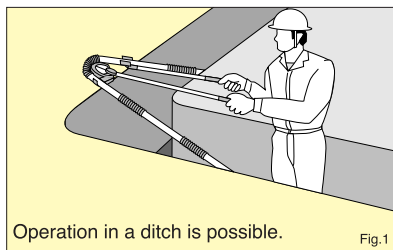

Fig.1
- Use of guiding handle ; eliminates need of setting the pipe on the ground. Operation in a ditch (for piping) is possible (Fig.1).